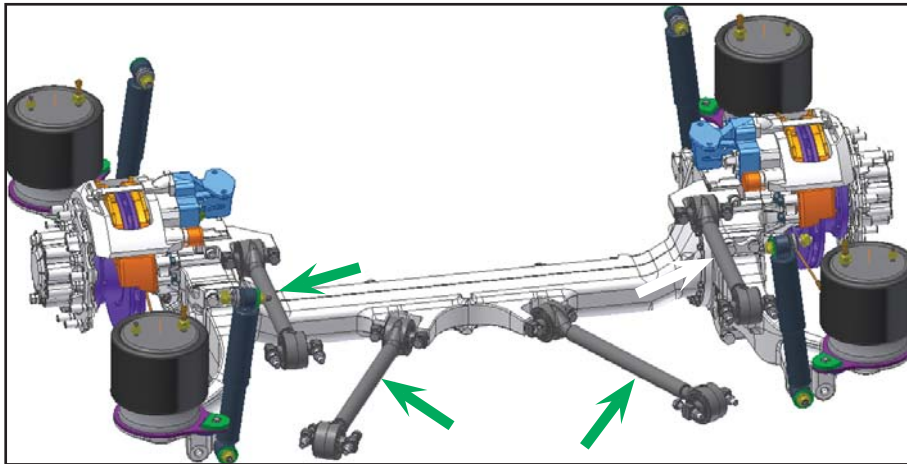

Figure 2 - Middle Axle Radius Rods (4x)
- 1.5. Locate the four radius rods on the middle axle. See Figure 2.